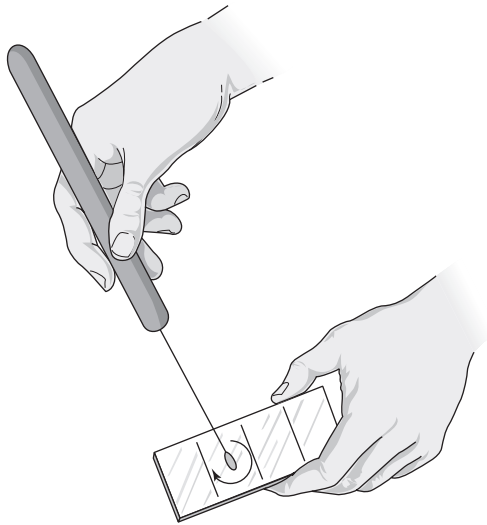

FIG. 3.6. Smear preparation.
2. Touch the loop to one of the three sections on the slide and spread the broth over an area at least the diameter of a dime. You may be directed to draw a circle under the slide where the smear is prepared to help you “target” the exact area (Fig. 3.6).